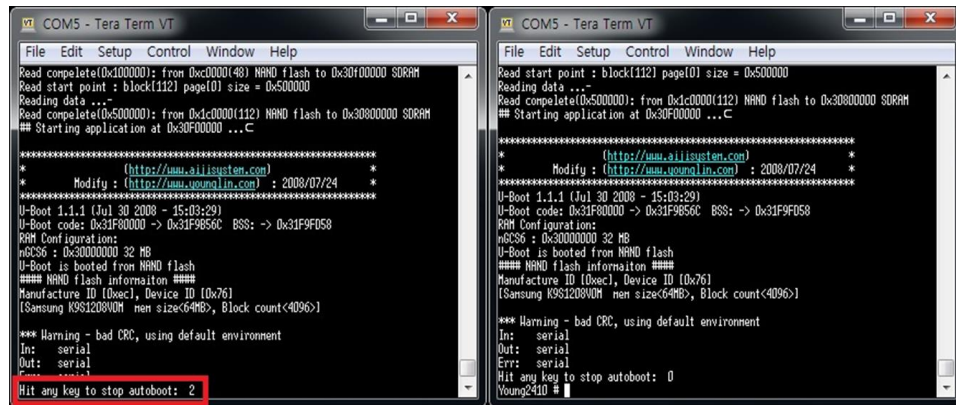

Figure 11. Tera Term - 'Hit any key to stop autoboot: 3' message
12. Turn on the pump then message will appears in 'Tera Term' window as shown in Figure 11.